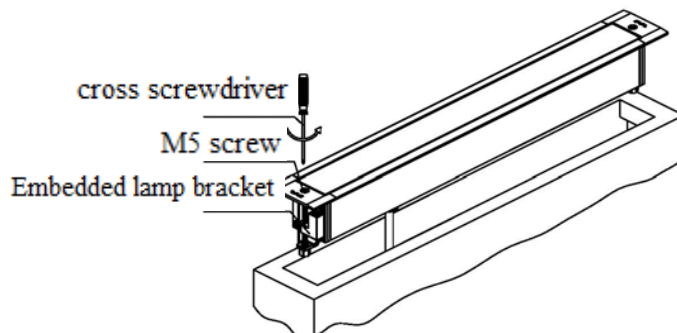
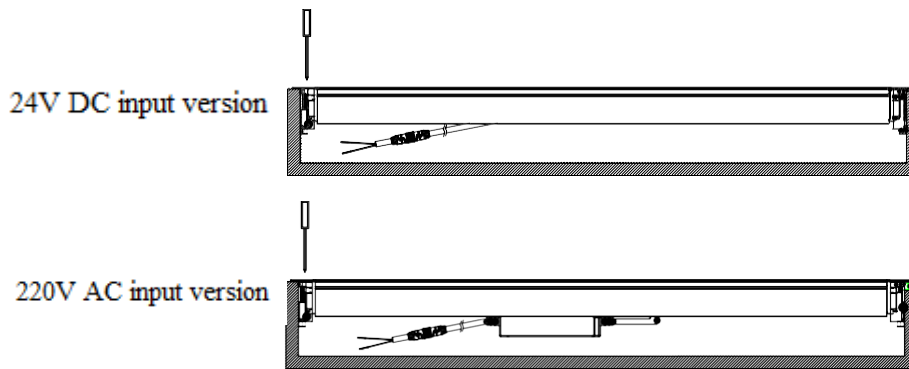

Figure 3
Figure 4
3. Use a Phillips screwdriver to rotate the M5 screw and rotate the embedded lamp bracket to the bottom (nut end) to ensure a certain locking force. Connect the power cord of the lamp to the already laid circuit (waterproof box can be added according to actual needs) (Figure 3). Then carefully install the lamp into the already opened hole, and then use a Phillips screwdriver to tighten the M5 screw and lock it. At this time, the line lamp bracket will move upwards and clamp the installation slot (Figure 4). Similarly, simply tighten the screw on the other end. Connect the power and the lamp can be used normally.